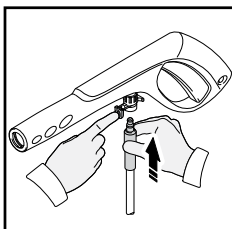

Fig. 5
- Connect the other end of the high pressure hose to the spray gun by inserting the brass metal tip of the high pressure hose into the fitting just ahead of the trigger guard. It will lock into the spray gun with a "click" (Fig 5). Confirm the hose is locked into the spray gun by pulling